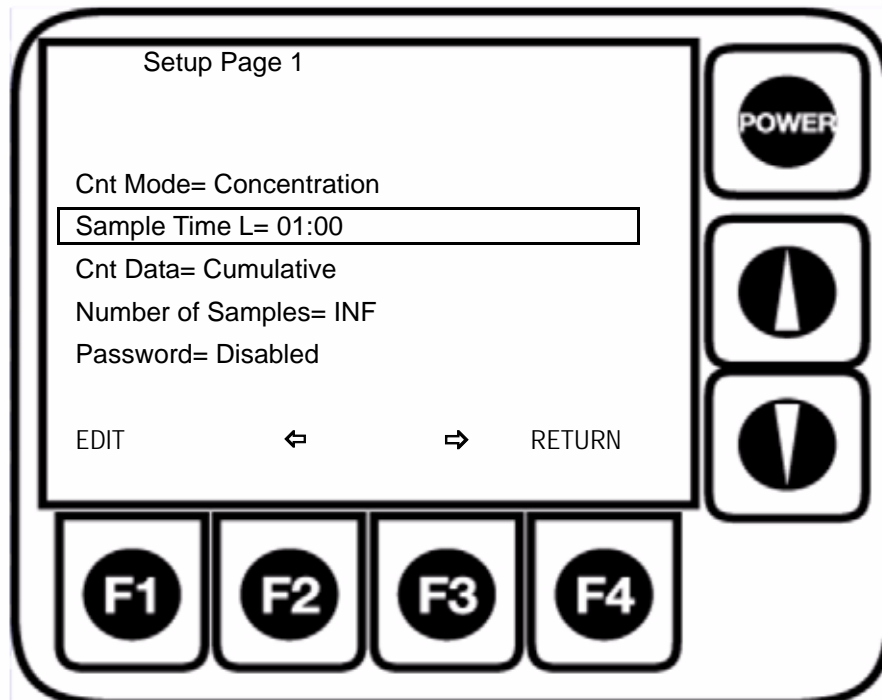

Fig 2-6 : Selecting Sample Time
- 1) Press the **Up** and **Down** arrows to select the second selection line, Sample Time or Sample Volume. When Sample Time is highlighted, the **F1** key will change from PAGE 2 to EDIT as shown in Figure 2-6. It will revert to PAGE 2 when the cursor is moved to another line or the sample time is changed to Sample Volume.
When Sample Time is highlighted, the F1 key will change from PAGE 2 to EDIT as shown in Figure 2-6. It will change back to PAGE 2 when the cursor is moved to another line or the sample time is changed to Sample Volume.